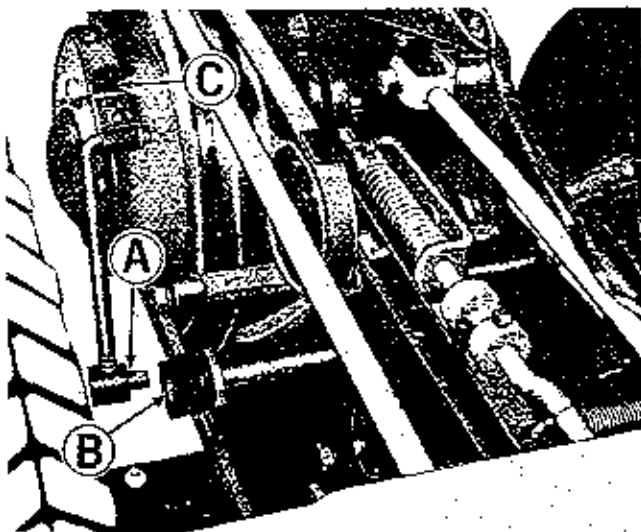

Figure 11. Shuttle drive adjustments.
8. See figure 11. Remove the cotter pin from swivel (A) and pull swivel (A) out of hole (B). Rotate swivel (A) until all slack is removed from brake band (C) when swivel (A) is placed through hole (B).
9. Install the cotter pin in swivel (A) to hold it in position through hole (B).
Will not pull with full power in reverse. Repeat steps 7 through 9 tightening brake band (figure 11, item C) more than previously.
Tractor creeps rearward when control lever is in neutral. Repeat steps 7 through 9 placing less tension on the brake band (figure 11, item C) than before.